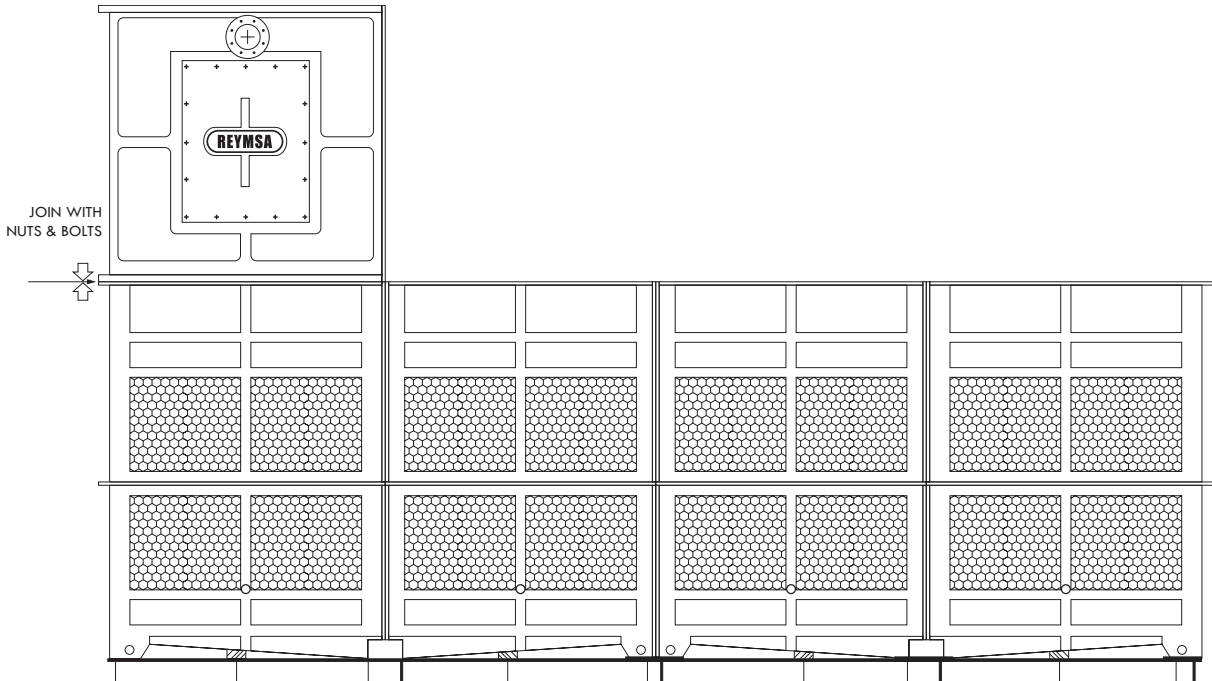

Figure A-28: Tower body section 1 installation
- J. Place tower body section 1 on top of upper air inlet section 1, making sure that the bolt holes on tower body section 1 are aligned with the perforations on upper air inlet 1, then bolt down and secure the horizontal flanges with the stainless steel nut and bolt sets supplied by REYMSA (see Figure A-28).